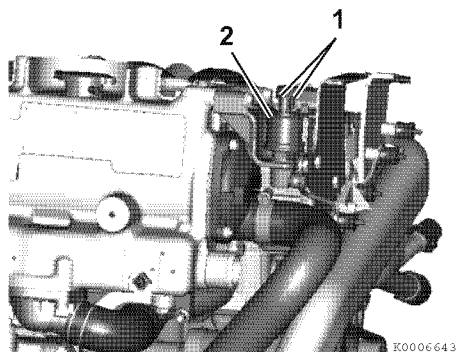

Figure 8-2
4. Disconnect wires (1, **Figure 8-2**).
5. Remove the oil pressure sensor (2, **Figure 8-2**).